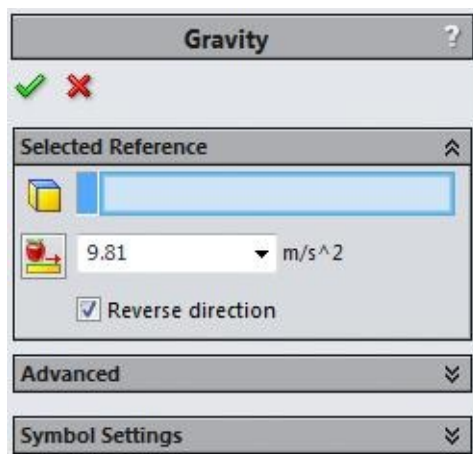

Figure-43. Gravity PropertyManager
- Click on the **Gravity** tool from the **External Loads Advisor** drop-down. The **Gravity PropertyManager** will be displayed as shown in Figure-43.